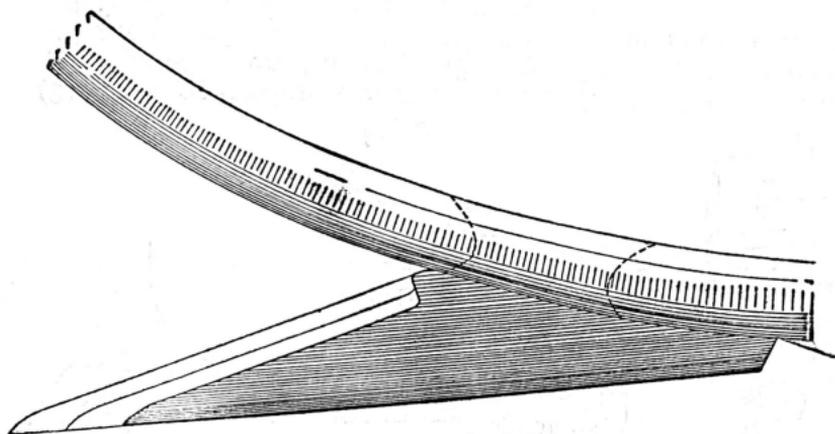

Fig. 2
2.05 Fig. 2 shows the manner in which the metal is removed from the inner surface of a gaff in the course of successive sharpenings. Take care to avoid scoring of the leg iron as such scores or scratches may weaken the leg iron. Avoid leaving file marks in the gaff as they may weaken the gaff.